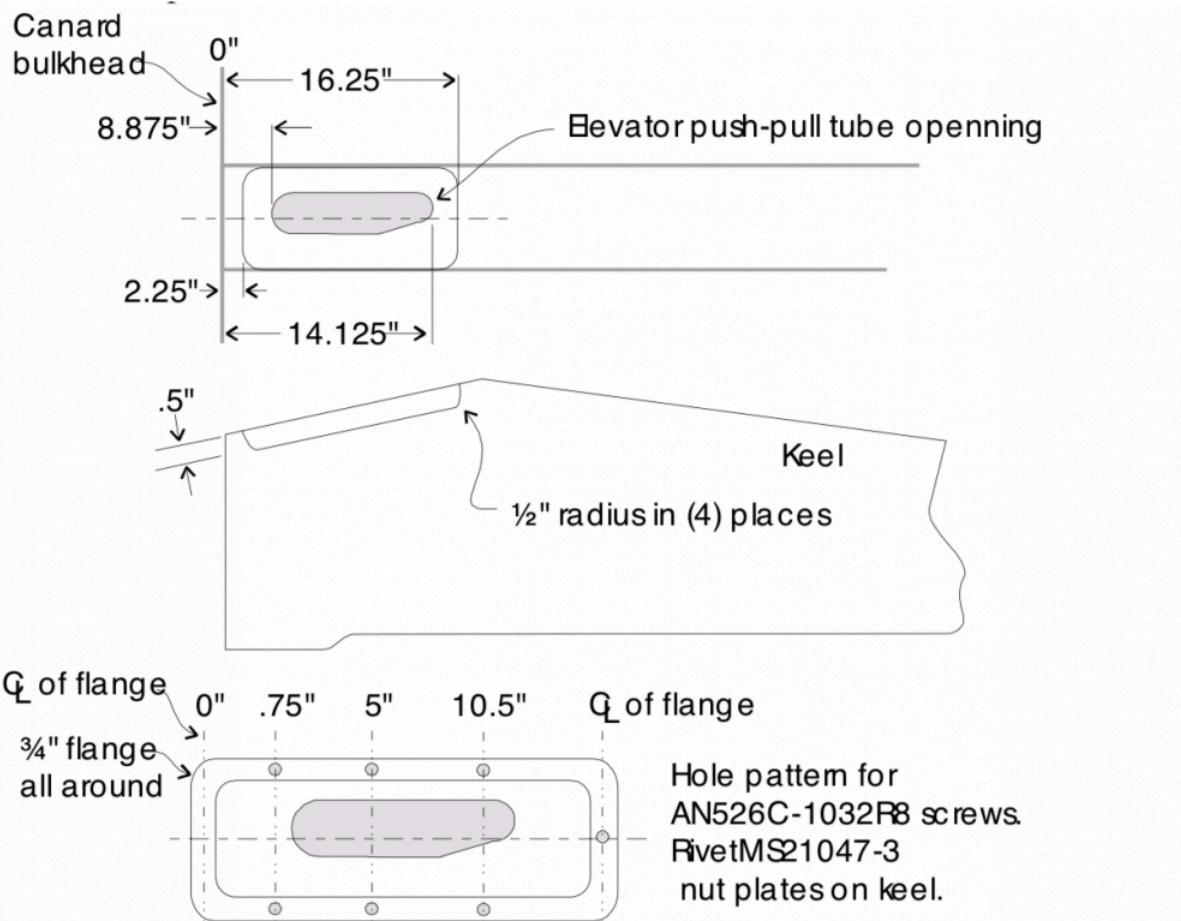

Figure 6-7. Forward Keel Access Hole
- ___ Cut out the oval hole in the middle of the cover plate. This is used for the elevator torque tube. Figure 6-7 shows the cutout and placement of screws and nutplates for the forward holes.